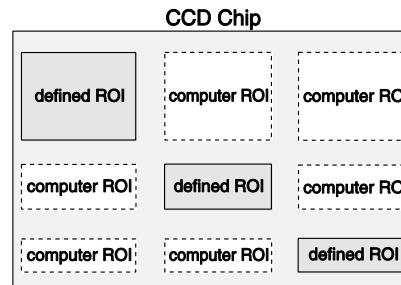
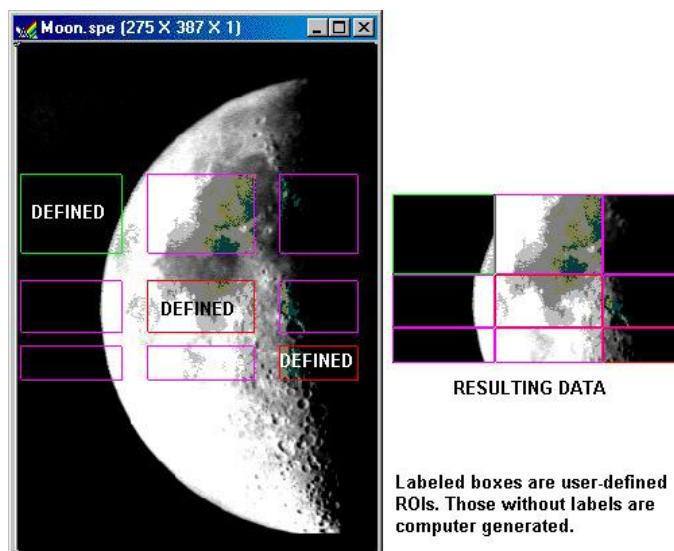

Figure 129. Imaging Mode
Figure 130. Multiple Imaging ROIs and Resulting Data
Figures 125-129 show possible ROI patterns. Note that the patterns in Figure 129 demonstrate varying size ROIs, a feature of Imaging Mode.
2. Once the first pattern is defined, all subsequent patterns are automatically assigned the same X-axis starting, ending, and grouping values. The first pattern need not be full width — any values in the chip range can be entered, but once stored, those values will apply as well to subsequently defined patterns. The figures below illustrate possible ROI patterns. Note the additional functionality available in Imaging Mode (Figure 129).
In this mode, ROIs can have varying sizes and degrees of overlap. However, when you define multiple ROIs like those in Figure 129, the computer automatically generates six “side-effect” ROIs in the regions where *extensions* of the strips and columns of the defined ROIs intersect. Both the defined and computer generated ROIs will be stored and the data for both will be displayed (see Figure 130). The side-effect ROIs are necessary to accommodate hardware limitations.